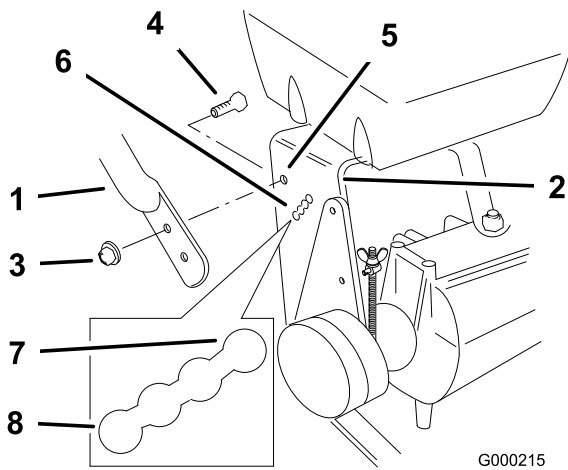

Figure 18
2. Loosen the upper flange bolts (3/8 x 1 inch) and the flange nut securing the handle to the rear frame (Figure 18).
- Remove the lower flange bolts (3/8 x 1 inch) and flange nuts securing the handle to the rear frame (Figure 18).